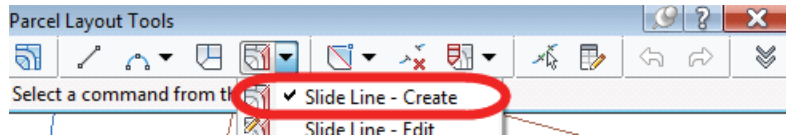

Figure 2–40
6. In the Create Parcels - Layout dialog box, set the following parameters, as shown in Figure 2–41: